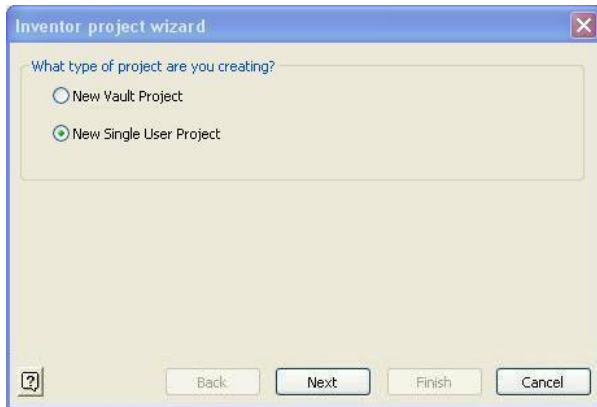

Figure 1.3
- Step 1 - Figure 1.3: Sets either the Vault or Single User. ALL of your projects will be Single User.